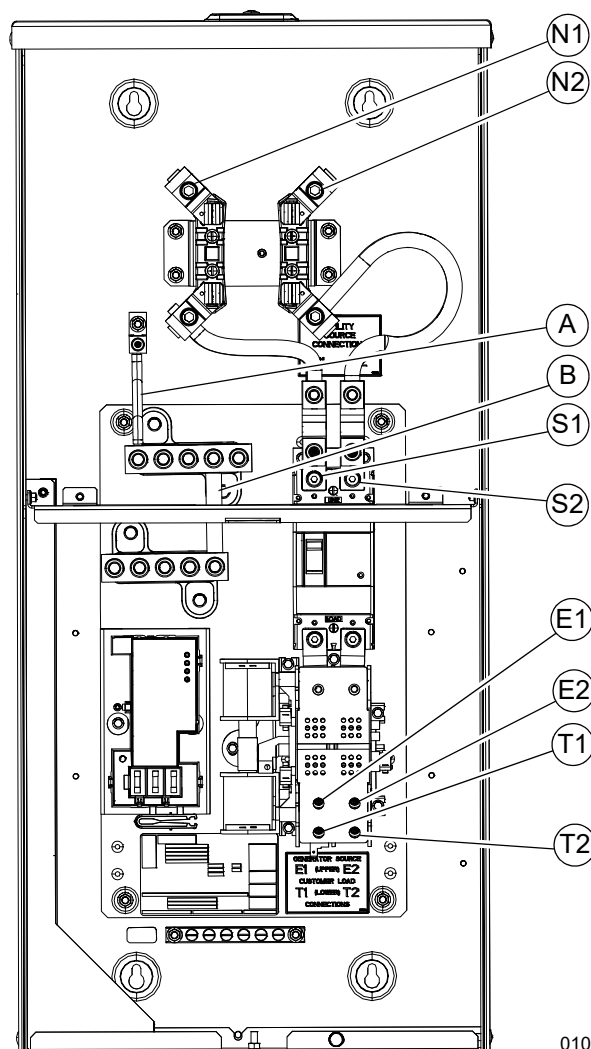

Figure 3-4. Wiring Connections
2. See Figure 3-4. Connect utility supply at the Four Jaw Meter Socket terminals N1 and N2. Follow torque specifications listed on the circuit breaker. Available utility entry points are the top, the bottom left or the bottom right. The wire duct is reversible for left or right wire entry applications as needed.
1. See Figure 3-4. Connect generator to the generator terminals (E1 and E2) on the transfer mechanism.